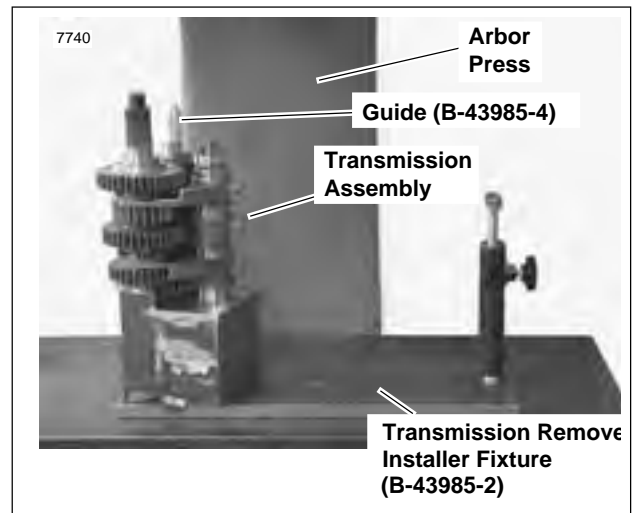

Figure 6-56. Transmission Assembly
2. See Figure 6-56. Place transmission assembly onto TRANSMISSION REMOVER/INSTALLER FIXTURE (Part no. B-43985-2) on arbor press.